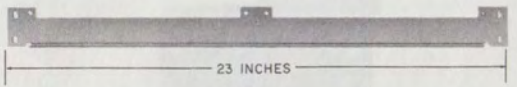

Fig. 50—813538733 (P-35C873) Mounting Bar
10.07 The 813538733 (P-35C873) mounting bar (Fig. 50) has two bars needed to mount one or two 811331131 (P-13C113) frame assemblies [31A (MD) apparatus mounting less welded hinge and fastener details] on a 23-inch wide relay rack. It is furnished with four 803534468 (P-353446) RHM screws.